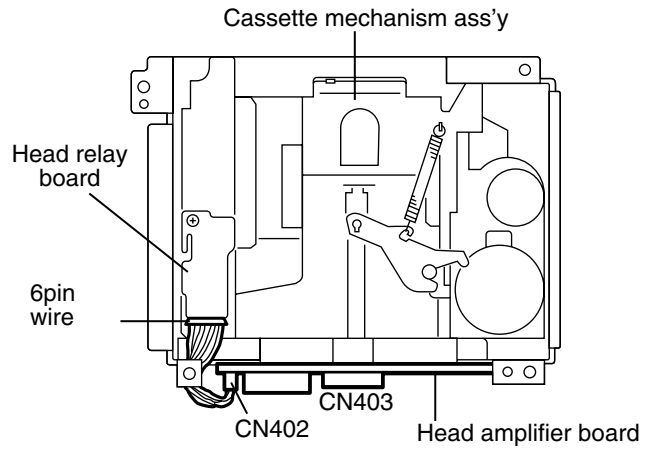

Fig.1
■ Removing the front chassis (See Fig.1~2)
(See Fig.1 and 2)**
■ Removing the cassette mechanism assembly (See Fig.1 to 3)
1. Disconnect the 6pin wire from connector CN402 and the card wire from CN403 on the head amplifier board (Refer to Fig.1 and 2).